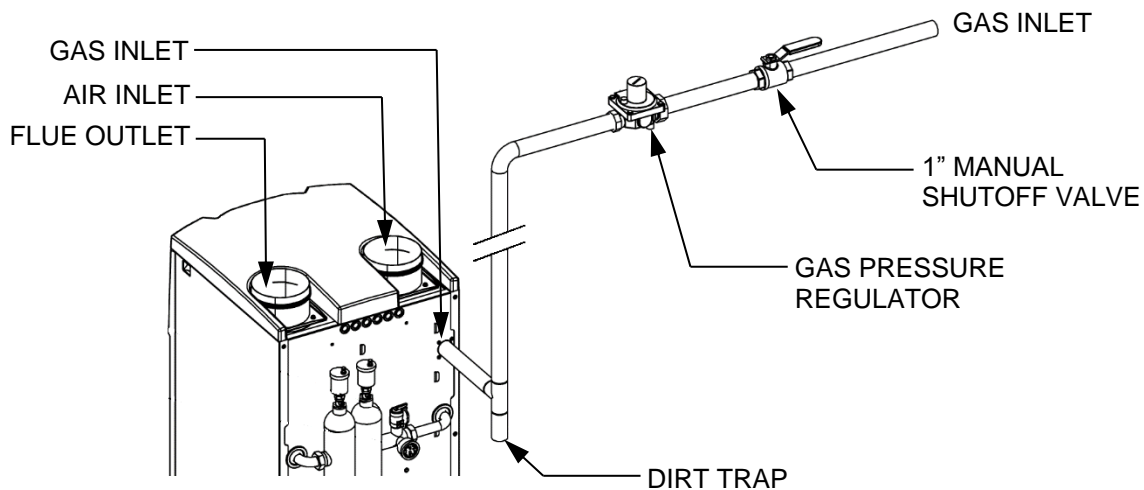

Figure 6-1: AM Series Gas Connection Example
1. Refer to Figure 6-1 for connections necessary to pipe gas to the unit.
2. Install a sediment trap / drip leg. (Figure 6-1).